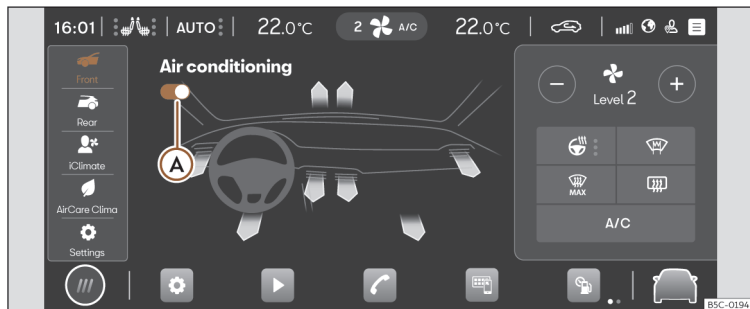

Fig. 130 Schematic representation: Air conditioning menu.
- Connect/disconnect the Climatronic >>> **Fig. 130 A**.